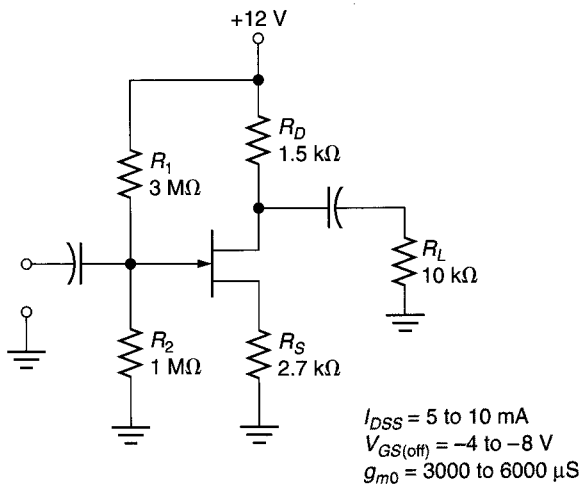

FIGURE 12.61
24. Determine the ranges of  $I_D$  and  $V_{DS}$  for the circuit shown in Figure 12.61.
32. Determine the range of  $A_v$  values for the circuit shown in Figure 12.61.
38. Determine the value of  $Z_{in}$  for the amplifier in Figure 12.61.